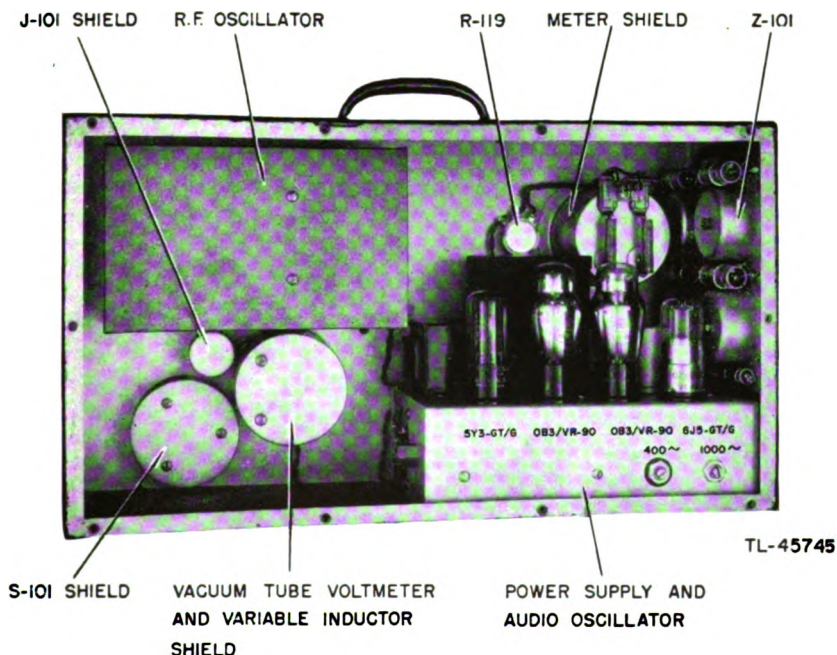
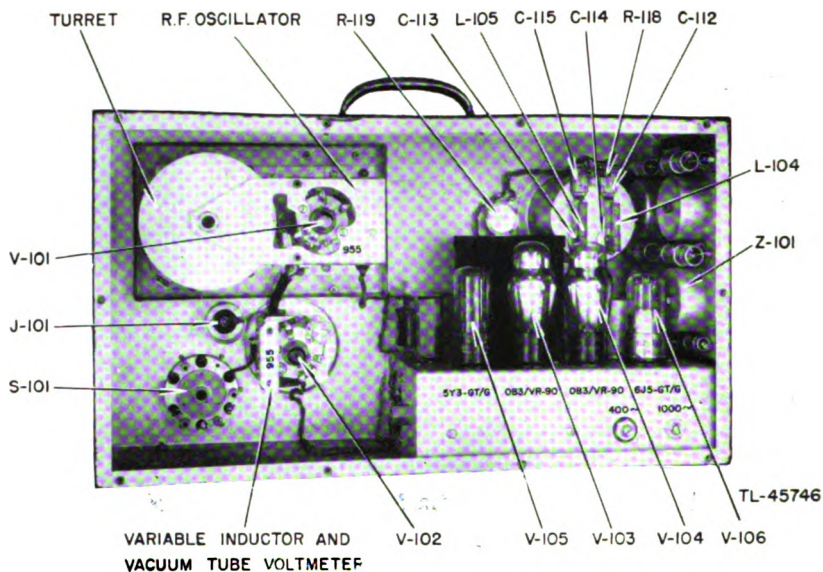

Figure 2. Signal generator cover removed, rear view.
Figure 3. Signal generator cover and shields removed, rear view.
**b. Inspection of Equipment.** Inspect all controls and parts on the outside of the case to insure that they have not been damaged during shipment. Look for broken meter glass or cracked meter case, cracked knobs, bent dials, etc. Take off the back cover by removing the 10 screws that fasten it to the case. Remove the cardboard tube retainer from the tubes of the power supply and modulator unit. Be careful not to damage the coils mounted on the meter shield (fig. 2). Unfasten and remove the shields from the vacuum tube voltmeter and r-f oscillator units. Press all tubes firmly into their sockets (fig. 3). Replace the shields which were previously removed for inspection of the tubes.
**a. General.** Signal Generator I-137-B consists of six basic subassemblies mounted in the case (fig. 2) and interconnected as shown in figure 18. The subassemblies are a power line filter unit, an a-c operated power supply and modulator unit, an r-f oscillator, a vacuum tube voltmeter, an indicating meter, and an attenuator. Figure 5 shows a block diagram of the subassemblies. Six vacuum tubes are utilized in the signal generator (fig. 20); one type 955 tube (V-101) as an r-f oscillator,
**b. Power Line Filter (figs. 2, 6, and 20).** Line filter Z-101 prevents radio-frequency signals from escaping from the signal generator through the power cord. Both sides of the line are filtered by means of r-f inductors L-108, L-109, L-110, L-111, and bypass capacitors C-124, C-125, C-126, C-127, C-128, C-129, C-130, and C-131. The 115-volt line voltage is applied to plug P-103, and the output side of the filter unit connects through switch S-104 to one side of the power transformer primary and through fuse F-101 to the other side of the power transformer primary.
**c. Power Supply and Modulator Unit (figs. 2, 7, and 8).** (1) The power supply utilizes a type 5Y3-GT/G full-wave rectifier tube to supply d-c potentials for the various vacuum tubes in the unit. Single-pole, single-throw switch S-104 and fuse F-101 in series with the transformer primary winding provide means for turning the power on and protection against overload.
(5) The resistance network, composed of R-122, R-123, and R-124 connected to the plus terminal and the C-terminal of E-101, is a part of the calibration circuit of the vacuum tube voltmeter. Potentiometer R-123 controls the vacuum tube voltmeter sensitivity by varying the cathode potential on V-102. Capacitor C-117 provides r-f bypassing.
(6) One side of the filament voltage secondary of transformer T-109 is connected to ground, and the other side is connected to the filament of V-106 and to terminal F on E-101 for distribution of voltage to the other tubes in the unit. Capacitor C-116 provides r-f bypassing.
**d. Variable R-f Oscillator (figs. 2, 9, and 10).** The r-f oscillator utilizes a type 955 tube in a series-feed Hartley oscillator circuit. R-f transformers T-101 to T-107 are housed in a turret in a manner which permits each transformer to be switched into operating position by rotation of the RANGE MEGACYCLES dial. Transformers which might cause undesirable resonance effects are short-circuited and grounded by appropriately placed contact springs. Feedback between the plate and grid circuits is obtained by connecting the cathode to a tap in the transformer winding and by using the mutual inductance between the two sections of the winding as a coupling medium. Resistor R-101 and capacitors C-102 are the grid leak and grid capacitor. Straight-line frequency type variable capacitor C-101 is the tuning capacitor; it is controlled from the front of the case by the vernier-tuning dial.
(1) Capacitor C-103 provides r-f bypassing for the plate of V-101. Inductor L-102 and capacitors C-105, C-106, and C-107 provide r-f filtering in the filament circuit of V-101. Filter network Z-102, which is composed of resistor R-102 and inductor L-103 in parallel, together with capacitors C-104 and C-108, provides r-f filtering in the plate circuit of V-101.
(2) Oscillator output voltage is developed across a low-impedance winding which is mutually coupled to the oscillator tank winding in each transformer. This output voltage is connected to the vacuum tube voltmeter and the attenuator system by a short length of two-wire shielded line.
(3) The oscillator unit is completely inclosed in a copper shield to prevent radiation of r-f signal to other parts of the unit. This shield must be securely fastened at all times for proper operation of the signal generator.
e. **Vacuum Tube Voltmeter (figs. 2, 11, 13, 18, and 20).** The variable inductor L-101 used to vary the magnitude of the r-f output is made a part of the vacuum tube voltmeter assembly because of the necessity for keeping lead lengths to a minimum at high frequencies. The r-f components of the vacuum tube voltmeter are mounted in this assembly; the calibrating and indicating components are located elsewhere.
(2) Circuits to the meter are filtered by the inductance-capacitance filters which are composed of inductors L-104, L-105, and capacitors C-112, C-113, C-114, C-115. The meter is housed in a shield to prevent stray r-f leakage. The filters and resistor R-118 are mounted on the meter shield assembly.
**g. Decade Step Attenuator (figs. 2, 14, and 15).** The attenuator assembly consists of a specially constructed switching arrangement (switch S-102, fig. 20) to which the resistors comprising the constant